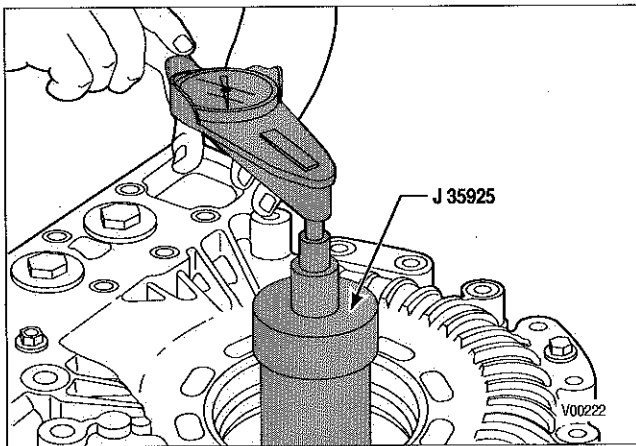

Figure 5-18. P3 Carrier Turning Torque Check—Retarder Equipped Models
- For units before S/N 6510064183, do Step (7), skip Steps (8)–(11), and go to Step (12).
- For units beginning with S/N 6510064183, skip Step (7) and go to Step (8).
7. Support retarder housing 51 so that turning torque of P3 carrier assembly 6 can be checked after installation of bearing retainer nut 54 (Figure 5-18). Maximum allowable drag is 3 N·m (26 lb inch).